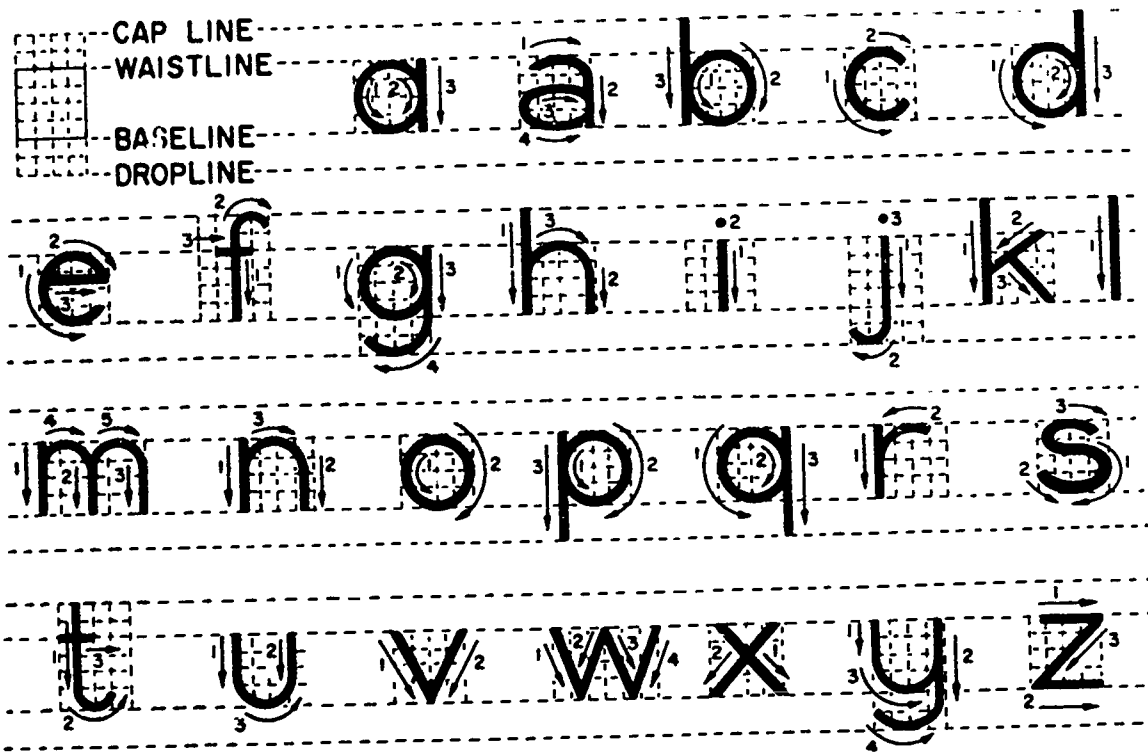

Figure 3-5. Vertical lower case letters.
**Small Letters.** Seven of the small, or lowercase, letters are made with straight lines. Two are made with curved lines, and the remaining letters are constructed with a combination of curved and straight lines. The lowercase letters of a Gothic style alphabet are shown in figure 3-5. As you can see, the bodies of these letters are two-thirds the height of the capitals; and the long stems or ascenders, with the exception of the letter t, which is generally shorter, are the same height as the capitals. The descenders of the letters g, j, p, q, and y extend as far below the lower guideline as the ascenders extend above the body of the letters.